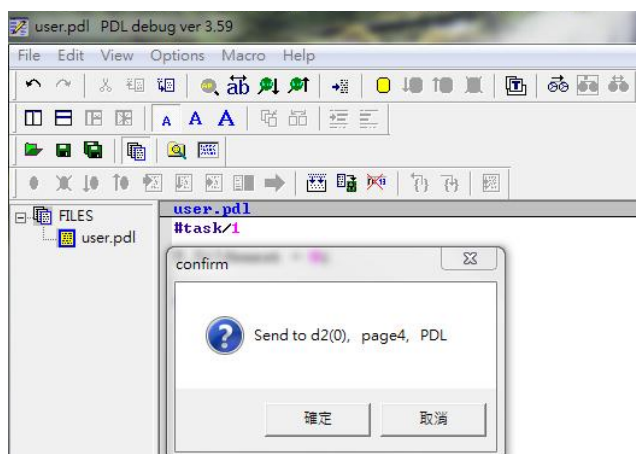
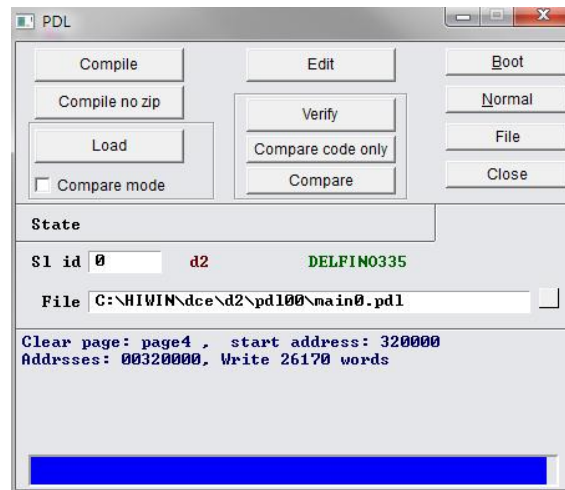

Figure12.2.5
Figure12.2.6
Step 4: After “Compile” is completed, click the “Send to slave” icon () and click the “Confirm” button in the dialog window of figure 12.2.5 to appear the execution window of figure 12.2.6 After loading the PDL program is completed, this window will be closed automatically.